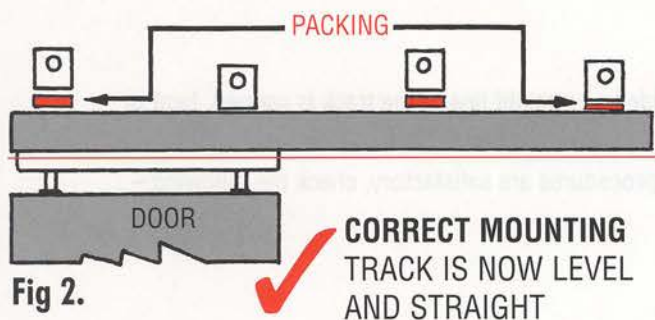

Fig 2.
4. **Before** tightening fixing bolts or screws, insert suitable thickness packing pieces between brackets and wall (see figures 2, 4, 6.) or between track and brackets. If track is mounted to an overhead fixing plate or lintel, use the same packing procedure (see figures 8, 9.)